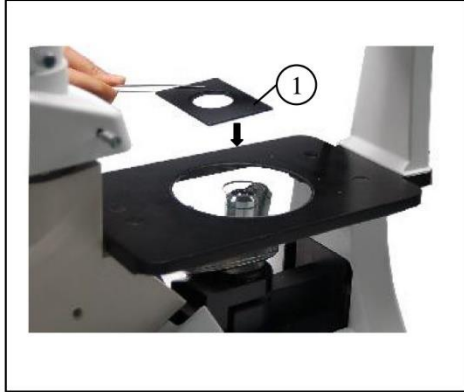
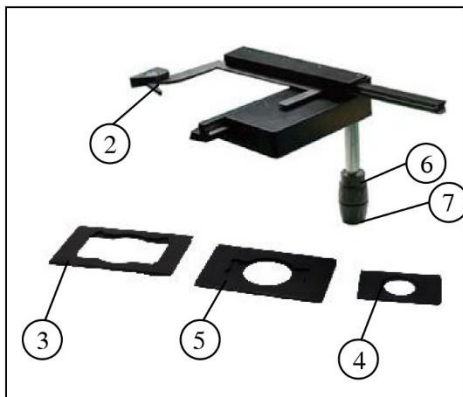

Figure 19
Figure 20
3.2.1. Setting the specimen (Figure 19 and Figure 20)